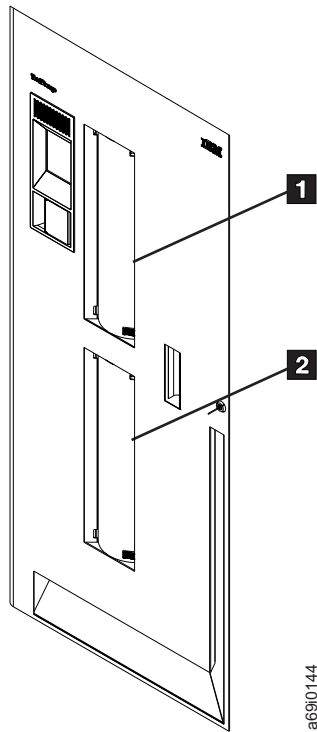

Figure 15. Storage slot addresses in the I/O stations of the TS3500 Tape Library. The door of a Model L22 or L52 frame is shown.
- An I/O slot address of F01,R05 means frame 1, slot 5 (fifth row from the top of the upper I/O station; see **1** in Figure 15 on page 44).